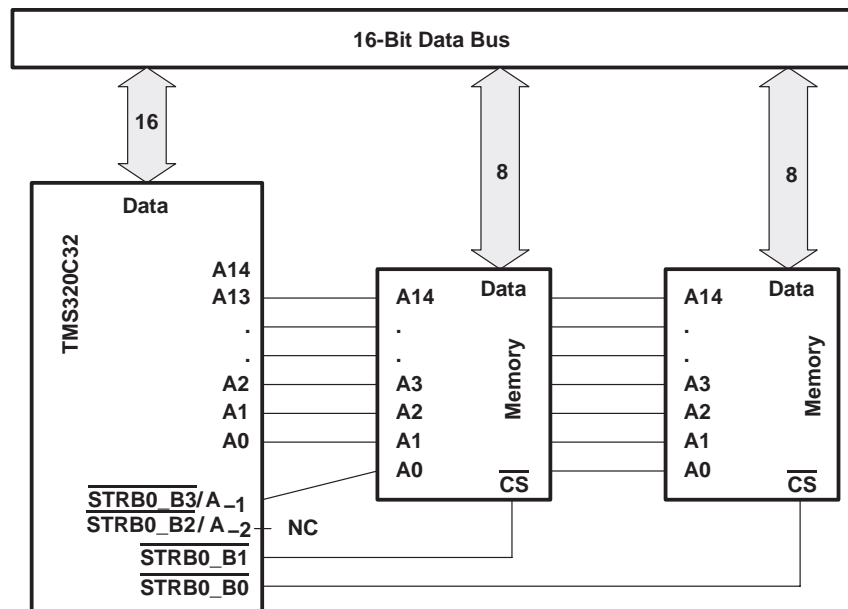

Figure 3. 'C32 With 16-Bit-Wide External Memory
- For 16-bit-wide physical memory, the $\overline{\text{STRBx_B3/A_1}}$ pin functions as an address pin (least significant address bits). The $\overline{\text{STRBx_B0}}$ and $\overline{\text{STRBx_B1}}$ pins function as byte-enable (chip-select) pins. $\overline{\text{STRBx_B2/A_2}}$ is unused. See Figure 3.